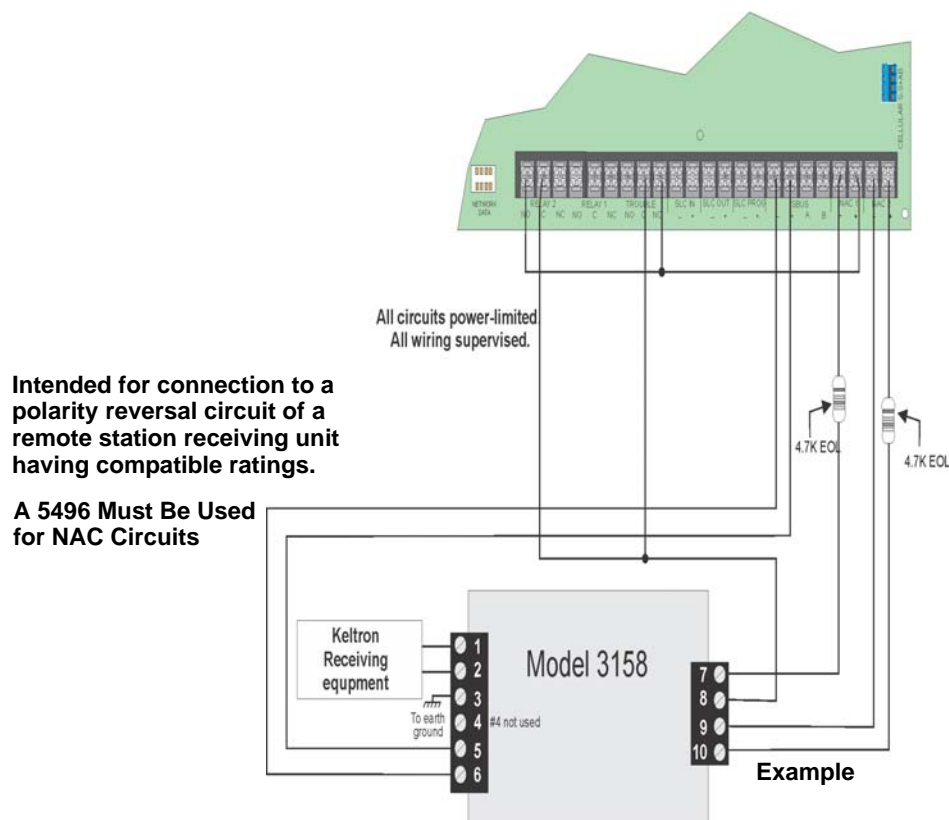

Figure 4.49 Keltron 3158 Connection to Control Panel
1. Wire the 3158 to the control panel as shown in the connection list and Figure 4.49.